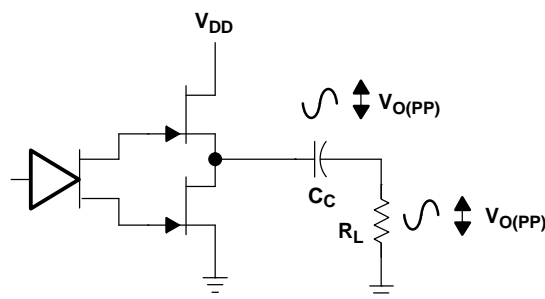

Figure 35. Single-Ended Configuration
In a typical computer sound channel operating at 5 V, bridging raises the power into an 8-Ω speaker from a singled-ended (SE) limit of 250 mW to 1 W. In sound power, that is a 6-dB improvement which is loudness that can be heard. In addition to increased power there are frequency response concerns; consider the single-supply SE configuration shown in Figure 35. A coupling capacitor is required to block the dc offset voltage from reaching the load. These capacitors can be quite large (approximately 40 μF to 1000 μF); so, they tend to be expensive, occupy valuable PCB area, and have the additional drawback of limiting low-frequency performance of the system. This frequency-limiting effect is due to the high-pass filter network created with the speaker impedance and the coupling capacitance and is calculated with Equation 2.